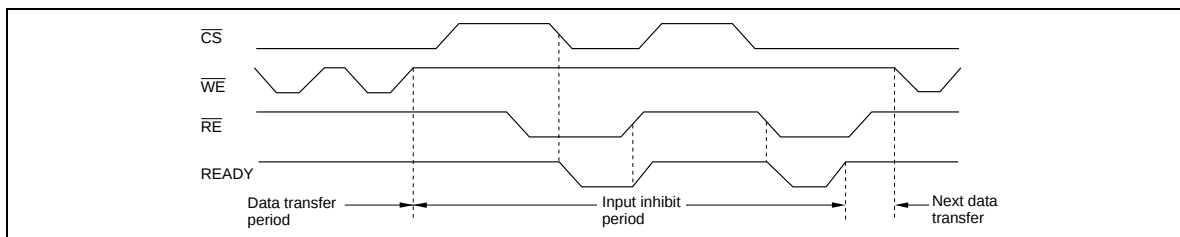

Figure 13 $\overline{READY}$ Output Timing (When It Is Made Available by $\overline{CS}$ and $\overline{RE}$)
- b. READY is mode available by $\overline{\text{CS}}$ and $\overline{\text{RE}}$ (Figure 13).